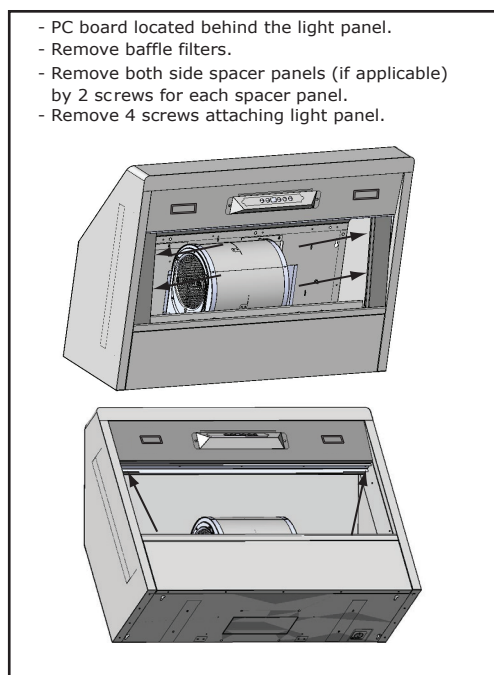

FIG. 1
1. Before hood installation, gain access to PC board by following the steps shown in FIG. 1.